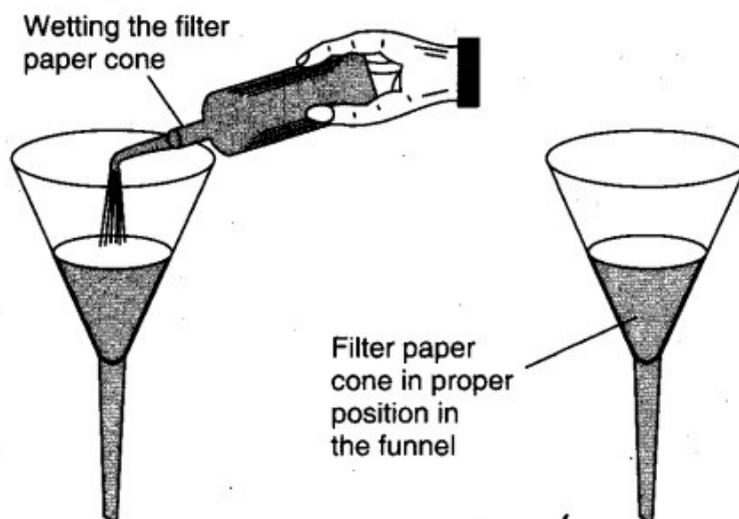

Fig. 5.4. Fitting and wetting of filter paper cone.
3. Wet the filter paper cone with a spray of water from a wash bottle pressing the upper part of the filter paper cone gently against the wall of the funnel with the thumb (Fig. 5.4).